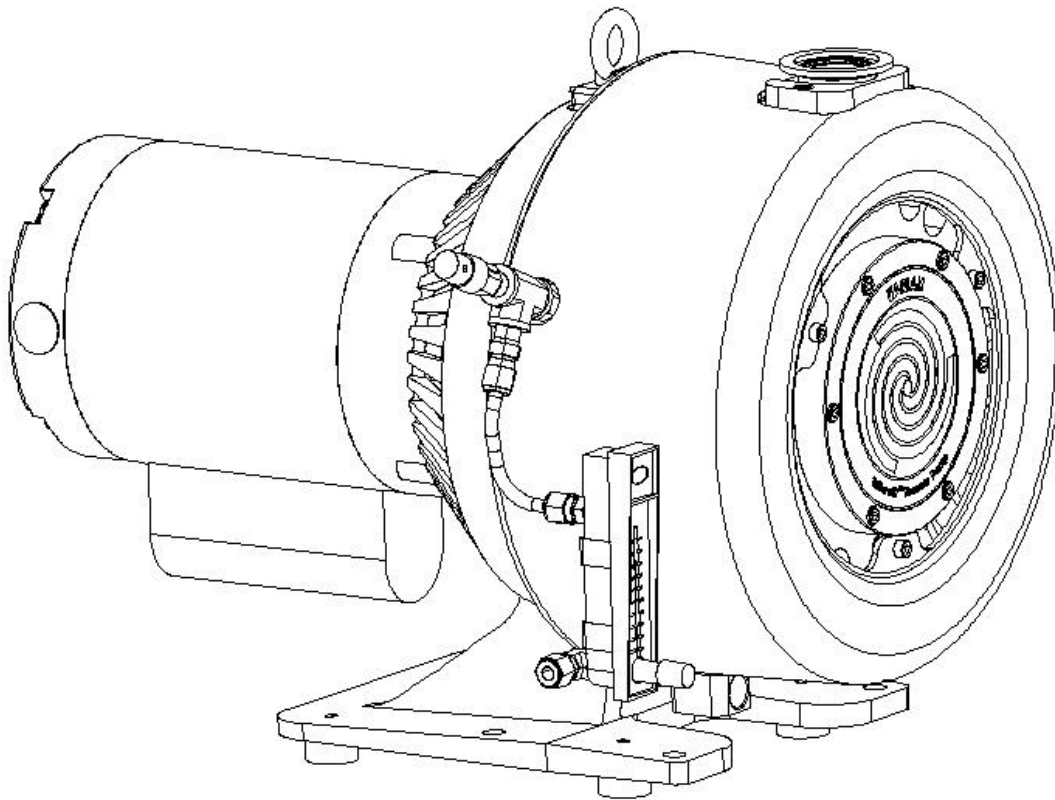

Figure 3. Gas Ballast Purge Installation
2. Install the Tee Subassembly into the Gas Ballast Port. Tighten moderately until the Swagelok fitting is pointing down as shown in Figure 3.